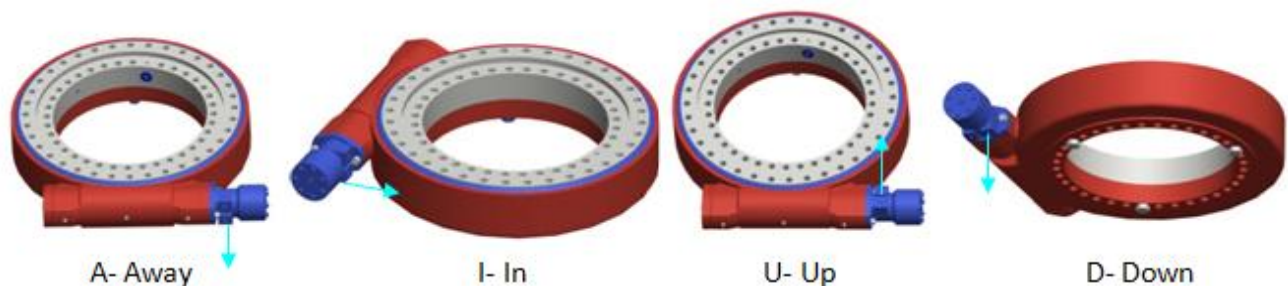

Figure 7: Hydraulic Motor Oil Port Position
- Check motor hydraulic port mounting position (see Figure 7).